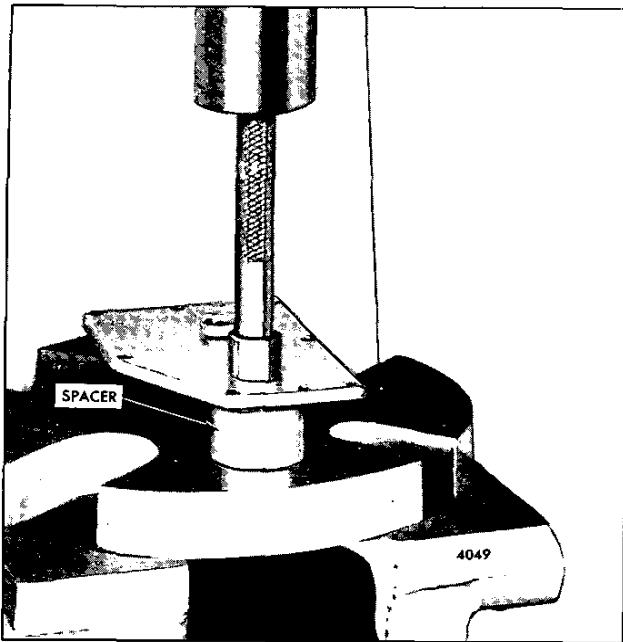

Fig. 5 - Removing Governor Cover Bearings Using Tool J 21967-01
5. If the bearings (or bushing) are to be removed, place the governor cover with the inner face down on an arbor press. Place a hollow spacer between the cover and the bed of the press (Fig. 5). Place the bearing remover J 21967-01 on top of the upper bearing (or bushing) and press both bearings (or bushing) out of the cover.